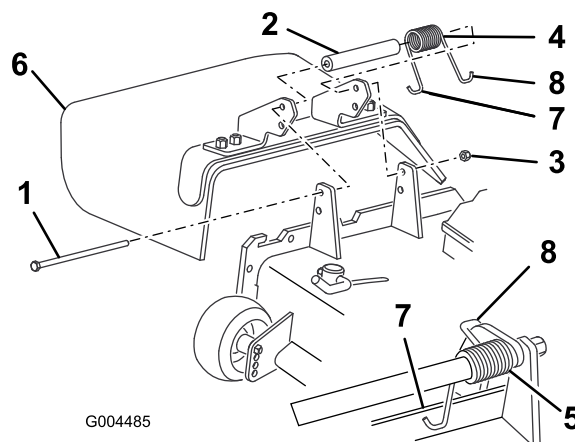

Figure 25
2. Remove the locknut, bolt, spring and spacer holding the deflector to the pivot brackets (Figure 25). Remove damaged or worn grass deflector.
3. Place the spacer and spring between the replacement grass deflector brackets (Figure 25). Place the left
Note: Make sure the left hand J hook end of the spring is installed behind the mower edge before installing the bolt as shown in Figure 25.
4. Install the bolt and nut. Place the right hand J hook end of the spring around the grass deflector (Figure 25).